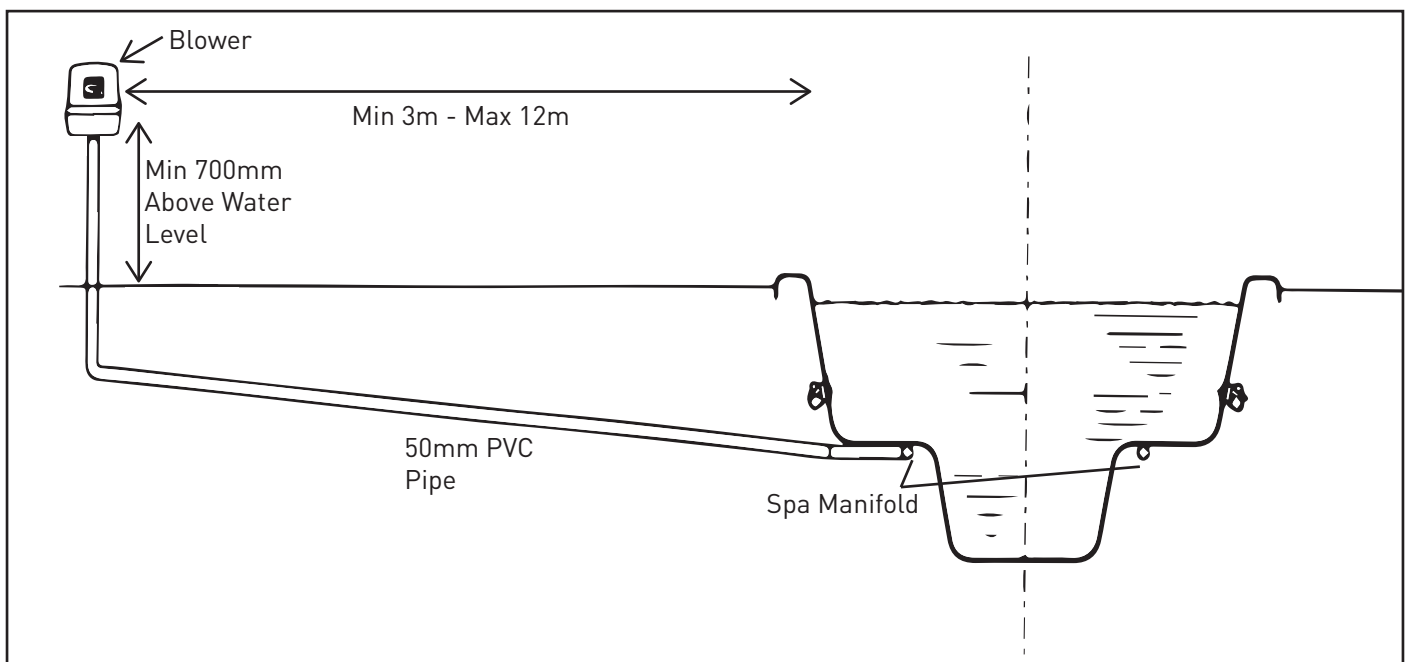

Figure 1
2. Run a 50mm PVC pipe line from the spa manifold outlet to blower position, ensuring that the 50mm pipe line has a minimum fall of 1:10 back to the pool/spa, this will allow the pipe line to have minimum water lying in the pipe (refer figure 1).
3. To prevent damage to the blower and electric shock the blower must be installed at least 700mm above the highest water level in the spa (see figure 1).
Spa blower MUST be mounted in a vertical position only, with the discharge downwards (refer Figures 1 & 2).